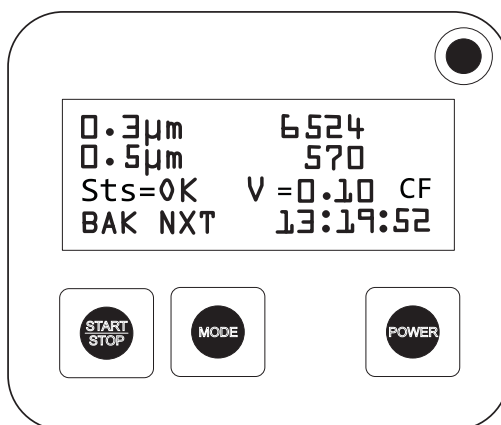

Figure 13 Stored buffer record screen
2. Press and hold the **MODE** key for one second until two beeps are heard. The most recent record in the buffer is displayed (refer to Figure 13).